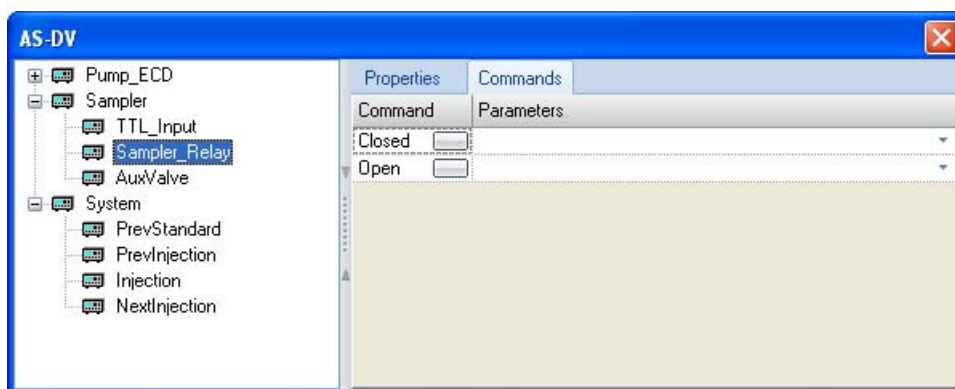

Figure C-6. Chromeleon 7 Command Window: Relay Control Commands
4. Click the required command (**Closed** or **Open**) (see the example in Figure C-6).
- Execute the required command (see the example in Figure C-6).